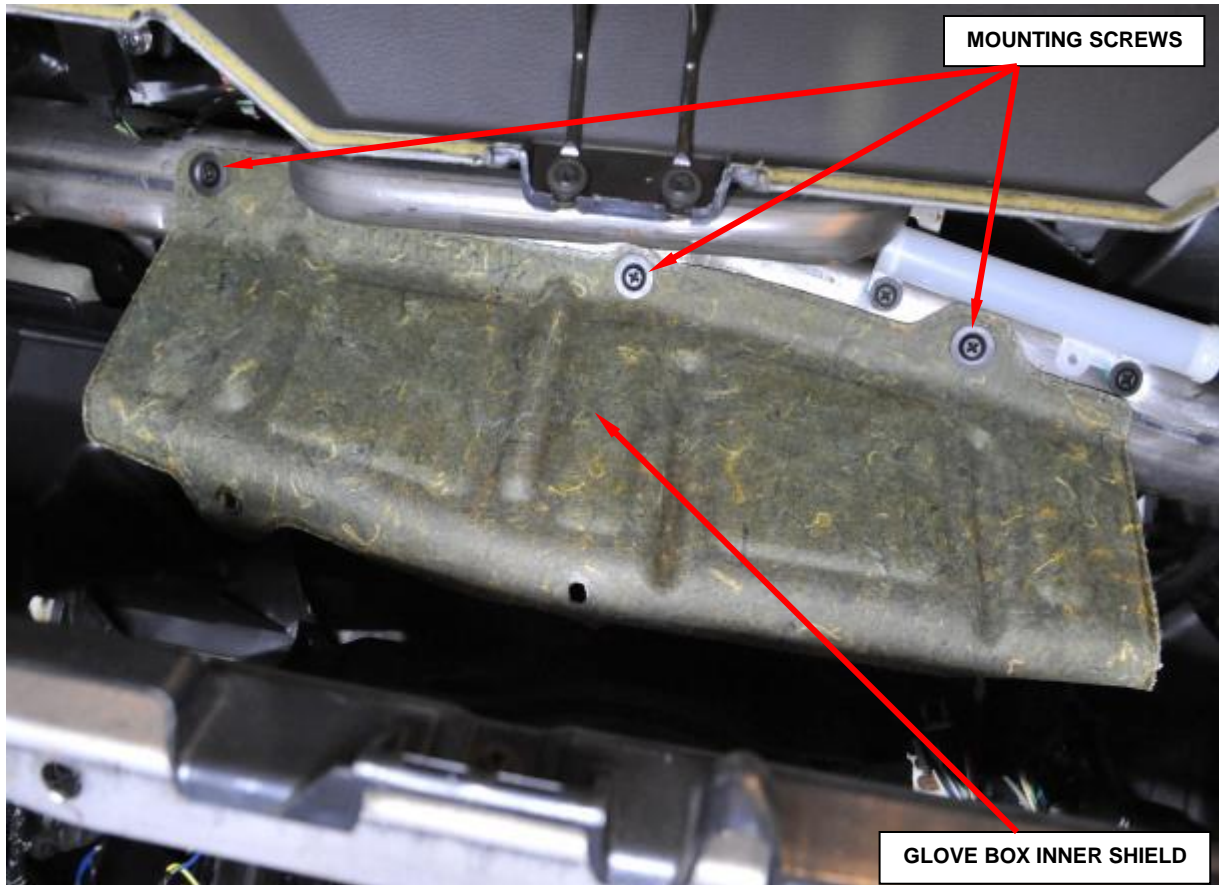

Figure 12 – Inner Glove Box Shield
4. Remove and save the three mounting screws to the inner glove box shield, if equipped (Figure 12).